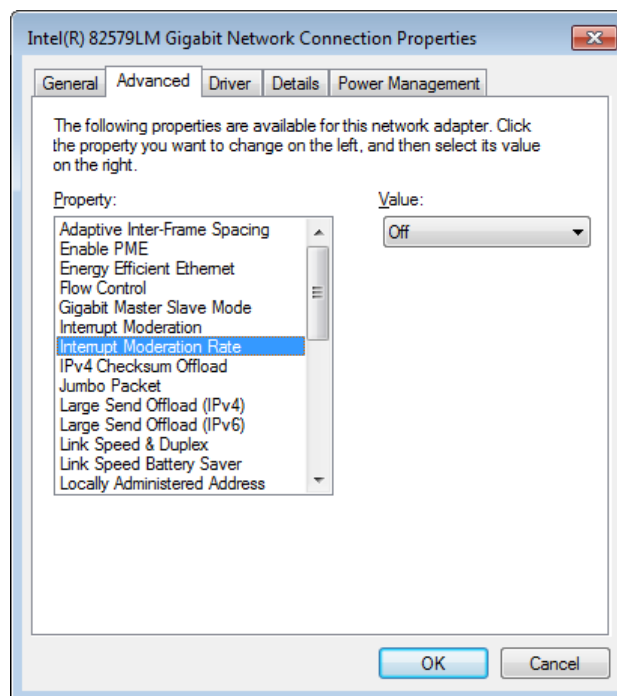

Figure 112: Network interface card - advanced driver settings - Interrupt Moderation Rate
To optimize the latency of the data transmission, it is recommended to disable the *Interrupt Moderation Rate* feature of the network adapter. This feature changes the way of interrupt generation by an incoming packet and makes it possible to reduce the delay in the processing of incoming Ethernet packets. It is usually accessible via the identically named property in the advanced driver settings of the NIC, shown in Figure 112.
4. The settings of the driver can be accessed by choosing the *Advanced* tab of the opened window. As shown in Figure 112, set the value of the *Interrupt Moderation Rate* property to *Off* or *Disabled*.